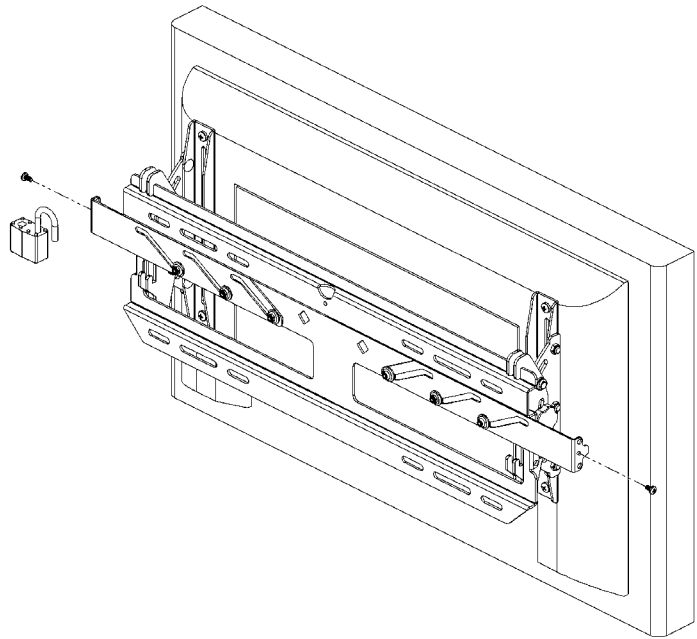

Figure 10. Remove Security Hardware
1. Place the display on the wall plate (10) by hooking the hooks of the brackets (20 and 30) in the top of the wall plate (see Figure 10).
2. Secure the display by sliding the latches, one on each side, inward (see Figure 10).
1. If applicable, remove the self tapping screws (70) and/or padlocks from both sides of the wall plate. This hardware provides security (see Figure 10).
2. Slide the security latches out on both sides to disengage the display from the wall plate (see Figure 10).